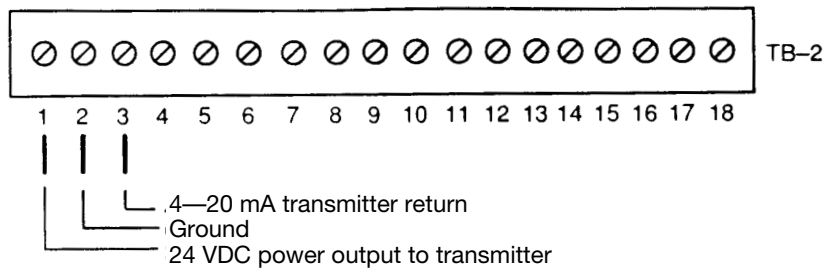

FIGURE 3
2. Connect the transmitter wires as shown in Figure 3. A two wire transmitter should be powered with the 24v DC supply from the PMC-1 by connecting the positive wire to terminal number 1 and the other transmitter wire to terminal 3 of TB-2. Twisted pair wires can be used for connecting the transmitter to the PMC-1. If a shielded pair of wires is used, connect the shield to terminal 2 of TB-2. Jumper at J5/J6 must be on J5. For 4-wire transmitters, see Appendix B.